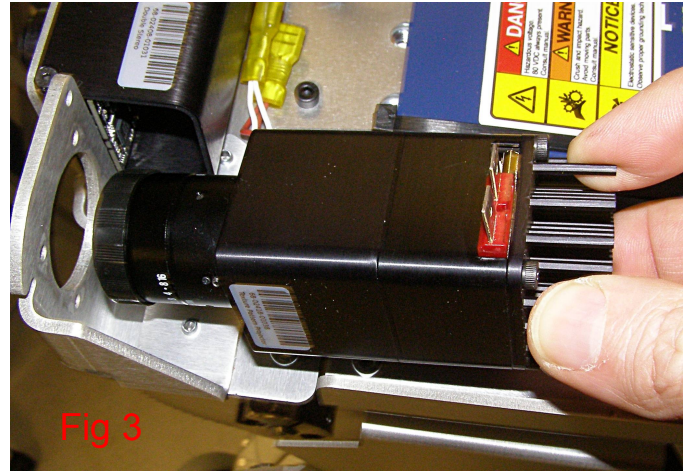

Fig 3
- Lifting the back of the Projector, first rotate the Projector 90 degrees so that the power connections will clear the Ethernet Hub, then remove the Projector from the rear being careful not to damage the lens assembly. (Fig. 3)